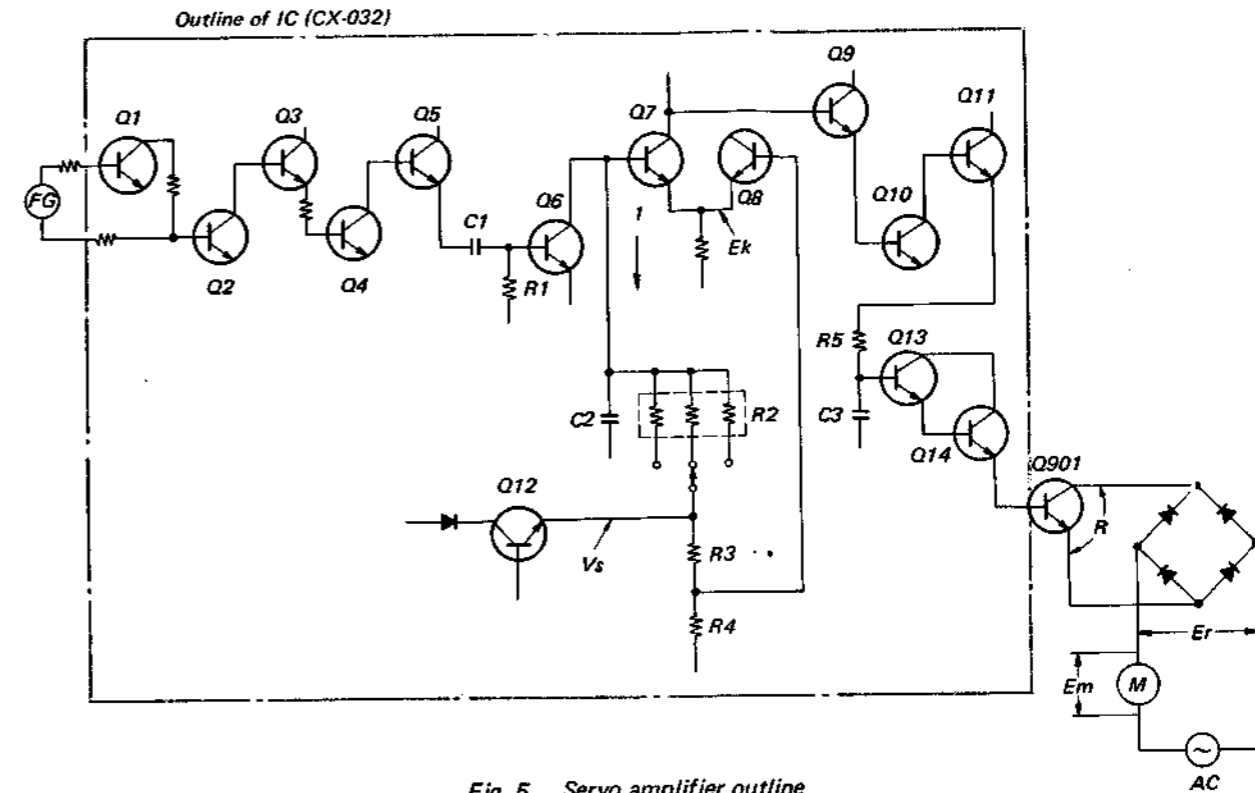
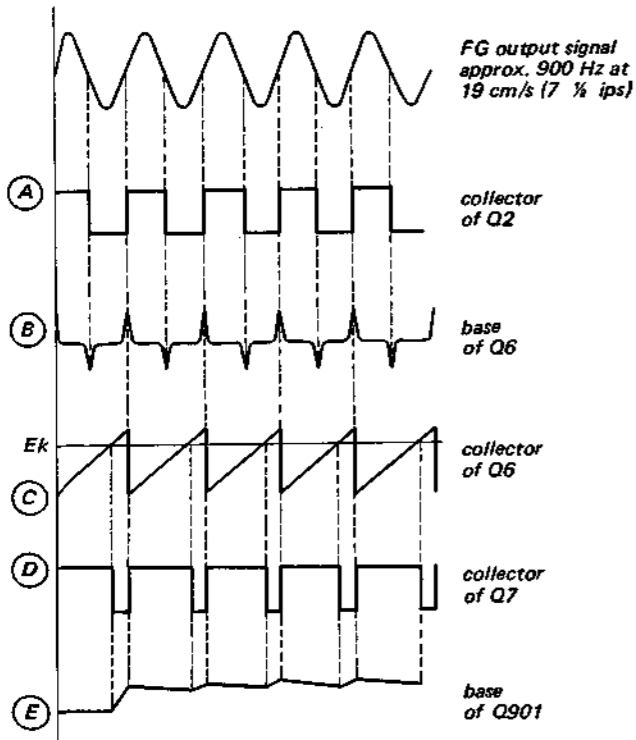

Fig. 5. Servo amplifier outline
Fig. 6. Waveform at each point
Servo amplifier which changes impedance R operates as follows: See Fig. 5 and Fig. 6.
- 1) Sine wave signal generated by frequency generator FG is transferred to bases of $Q1$ and $Q2$. Since base bias voltages of $Q1$ and $Q2$ are set to saturation region, sine wave signal is waveshaped to square wave signal shown by (A) in Fig. 6.
- 2) Square wave signal from $Q2$ is amplified by $Q3$, $Q4$ and $Q5$. It is transferred to differentiating circuit comprising $C1$ and $R1$ and is waveshaped to pulse shown by (B) in Fig. 6. Then it is transferred to base of $Q6$.
- 4) V_s also charges $C2$ according to the time constant decided by $C2$ and $R2$. The charged voltage is applied to collector of $Q6$. When pulse shown by (B) in Fig. 6 is transferred to base of $Q6$, $Q6$ repeats ON and OFF states. $C2$ discharges while $Q6$ makes current flow as shown by the arrow (1) in Fig. 5. Thus sawtooth wave signal shown by (C) in Fig. 6 is obtained at collector of $Q6$.
- 5) The sawtooth wave signal is supplied to base of $Q7$. Since the emitter voltage E_k is kept constant, $Q7$ turns ON only when the peak value of sawtooth wave signal is greater than E_k . When $Q7$ turns ON, the negative pulse shown by (D) in Fig. 6, appears at collector of $Q7$.
- 6) This pulse is amplified by $Q9$, $Q10$ and $Q11$, and its polarity is inverted. The positive pulse is transferred to the integrator comprising $R5$ and $C3$, and is waveshaped as shown by (E) in Fig. 6. After being amplified by $Q13$ and $Q14$, it is transferred to base of $Q901$. And this base voltage changes impedance between collector and emitter of $Q901$ and controls motor speed.